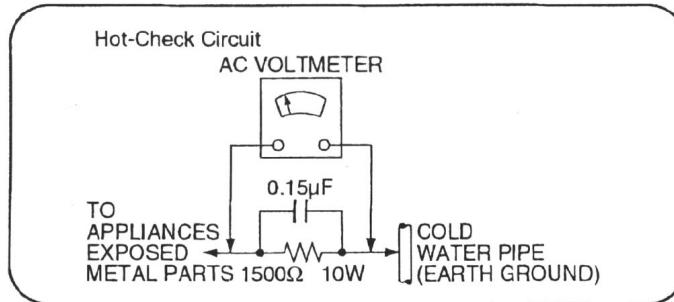

Fig. 1
- Connect a $1.5k\Omega$, 10 watts resistor, in parallel with a $0.15\mu F$ capacitors, between each exposed metallic part on the set and a good earth ground such as a water pipe, as shown in Figure 1.